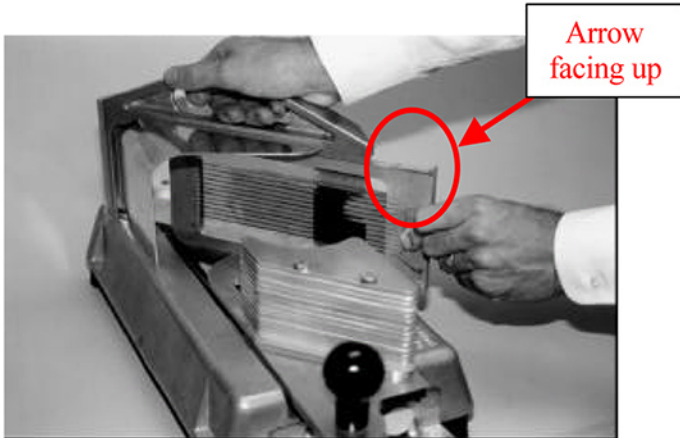

Figure 1
2. While holding the handle with one hand, firmly grasp the blade cartridge by the finger grip with other hand. Pull the blade cartridge all the way out. The blade clip will release the cartridge. See figure 1.
5. Slide in the new blade cartridge with arrow facing up. See figure 1.
6. Firmly push the blade cartridge into place until it snaps into the blade clip. See figure 1